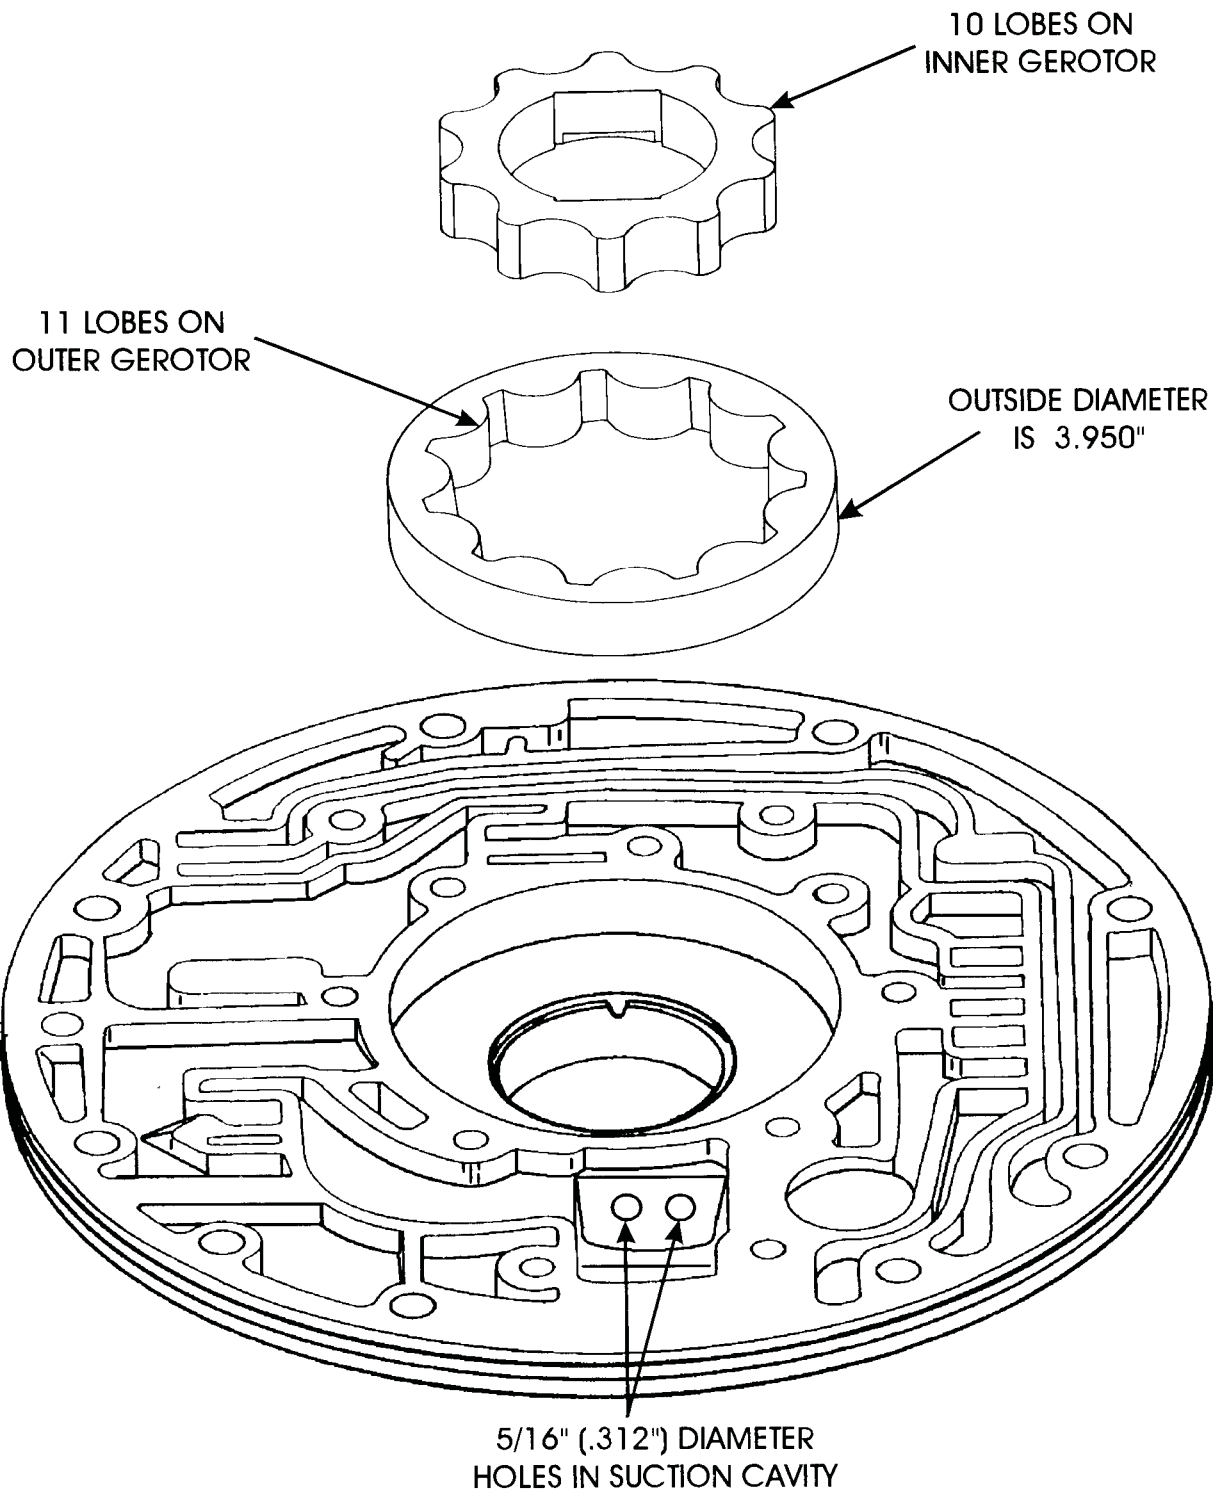

Figure 55
- (1) **FRONT PUMP BODY** - Gerotor bore has an increased diameter to accommodate the new design level outer gerotor. Previous outer gerotor diameter was 3.950" and the new design level outer gerotor diameter is 4.083". Refer to Figures 55 and 56. Also, the two holes in the suction cavity were increased from .312" to .400", as shown in Figures 55 and 56.
- (2) **OUTER GEROTOR** - The lobes on the Outer Gerotor changed from the previous 11 lobes to 10 lobes on the new design, to accommodate the changes on the inner gerotor. The diameter of the Outer Gerotor also changed from 3.950" to 4.083". Refer to Figures 55 and 56.
- (3) **INNER GEROTOR** - The lobes on the Inner Gerotor changed from the previous 10 lobes to 9 lobes on the new design, to accommodate the changes on the outer gerotor. Refer to Figures 55 and 56. The changes on both the inner and outer gerotor increased the cavity between the gerotors for increased pump volume, as shown in Figure 57.
- (4) **FRONT PUMP COVER** - Received casting changes with added ribs in strategic places to increase torque retention when the two halves are torqued properly. The Pump Body to Pump Cover bolts should be torqued to 18-23 ft.lbs, with the alignment ring in place.